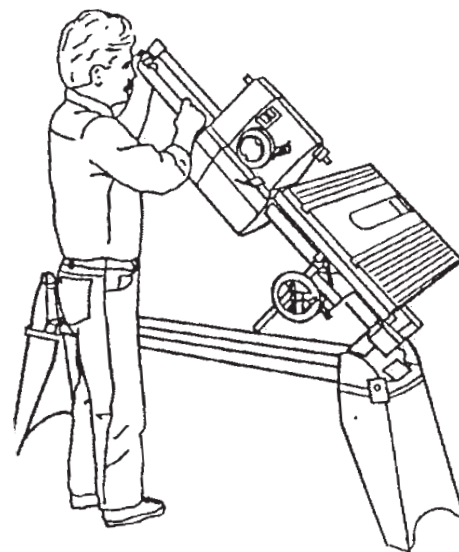

Figure B-46
6. Tighten the headstock and carriage locks. Place the MARK 520S in the vertical position by loosening the horizontal lock knob, firmly grasping the way tubes near the left end, and lifting the tubes into the 90° position, as demonstrated in Figure B-46.